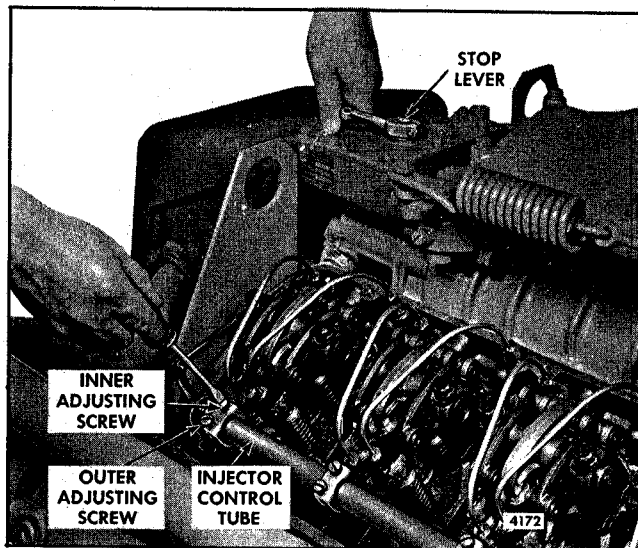

Fig. 24 - Positioning No. 1L Injector Rack Control Lever.
6. Move the stop lever to the RUN position and hold it in that position with light finger pressure. Turn the inner adjusting screw of the No. 1L injector rack control lever down (Fig. 24) until a slight movement of the control tube is observed, or a step-up in effort to turn the screw driver is noted. This will place the No. 1L injector rack in the full-fuel position. Turn the outer adjusting screw down until it bottoms lightly on the injector control tube. Then, alternately tighten both the inner and outer adjusting screws.